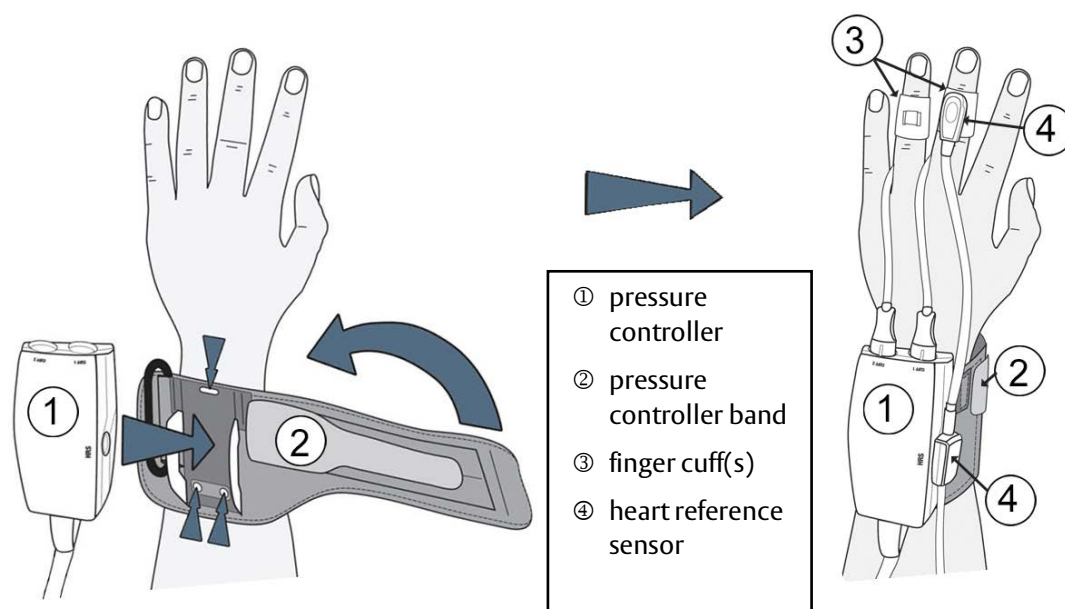

Figure 10-2 Pressure controller application
The pressure controller kit (PC2K or HEMPC2K) consists of a pressure controller (PC2 or HEMPC) and accompanying band (PC2B). A pressure controller cover is available as an accessory. The pressure controller cover secures the heart reference sensor into the pressure controller. See *Pressure Controller Cover* on page 306. Device performance, including functional characteristics, have been verified in a comprehensive series of testing to support the safety and performance of the device for its intended use when used in accordance with the established Instructions for Use. The pressure controller is worn on the patient's wrist and connects to the HemoSphere Alta advanced monitor, HRS and finger cuff(s). See figure 10-2.
- 1 Wrap the pressure controller band around the patient's wrist. The non dominant hand is preferred for monitoring in awake patients. (figure 10-2, left)